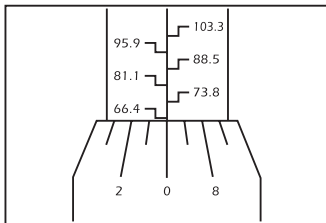

FIG.8
2. 66.4 ft-lb. whole number (Fig.8).